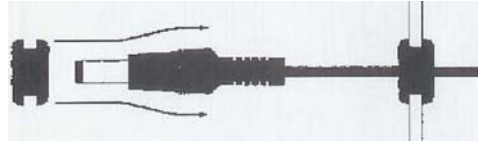

Figure 2
5) If necessary, route the power cord through the furnace/air handler cabinet to the filter rack area. If an existing access hole is not available, drill a 7/16" hole. A grommet is provided to fit a 7/16" hole (fig 2). The cord should be run so that it is not crimped or abraded and should have enough slack to allow the air cleaner to be easily removed for routine maintenance. Position the power cord slack to keep it away from the furnace/air handler blower and other moving parts.